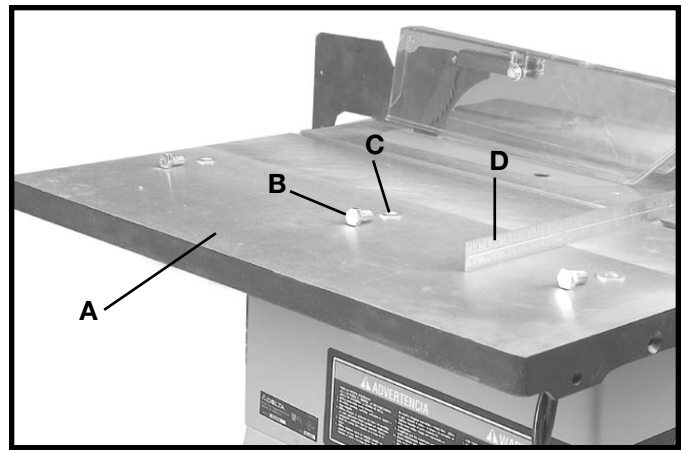
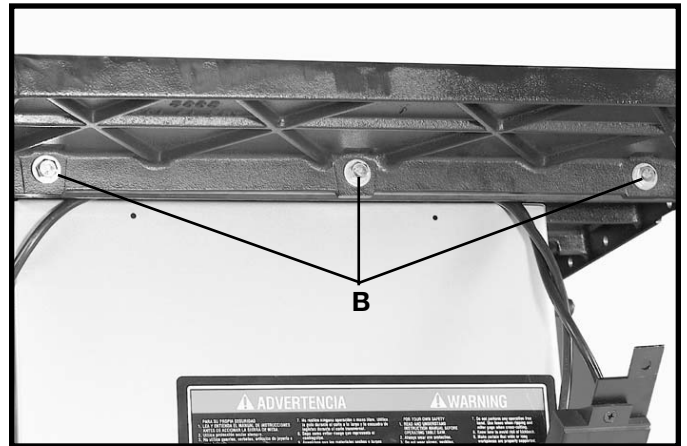

Fig. 39
Fig. 40
1. Assemble extension wing (A) Fig. 39, to the saw table using three 7/16-20 x 1-1/4 screws (B) and lock-washers (C) as shown in Fig. 39.
2. With a straight edge (D) Fig. 39, make certain the extension wing (A) is level with the saw table before tightening three screws (B) Fig. 40.